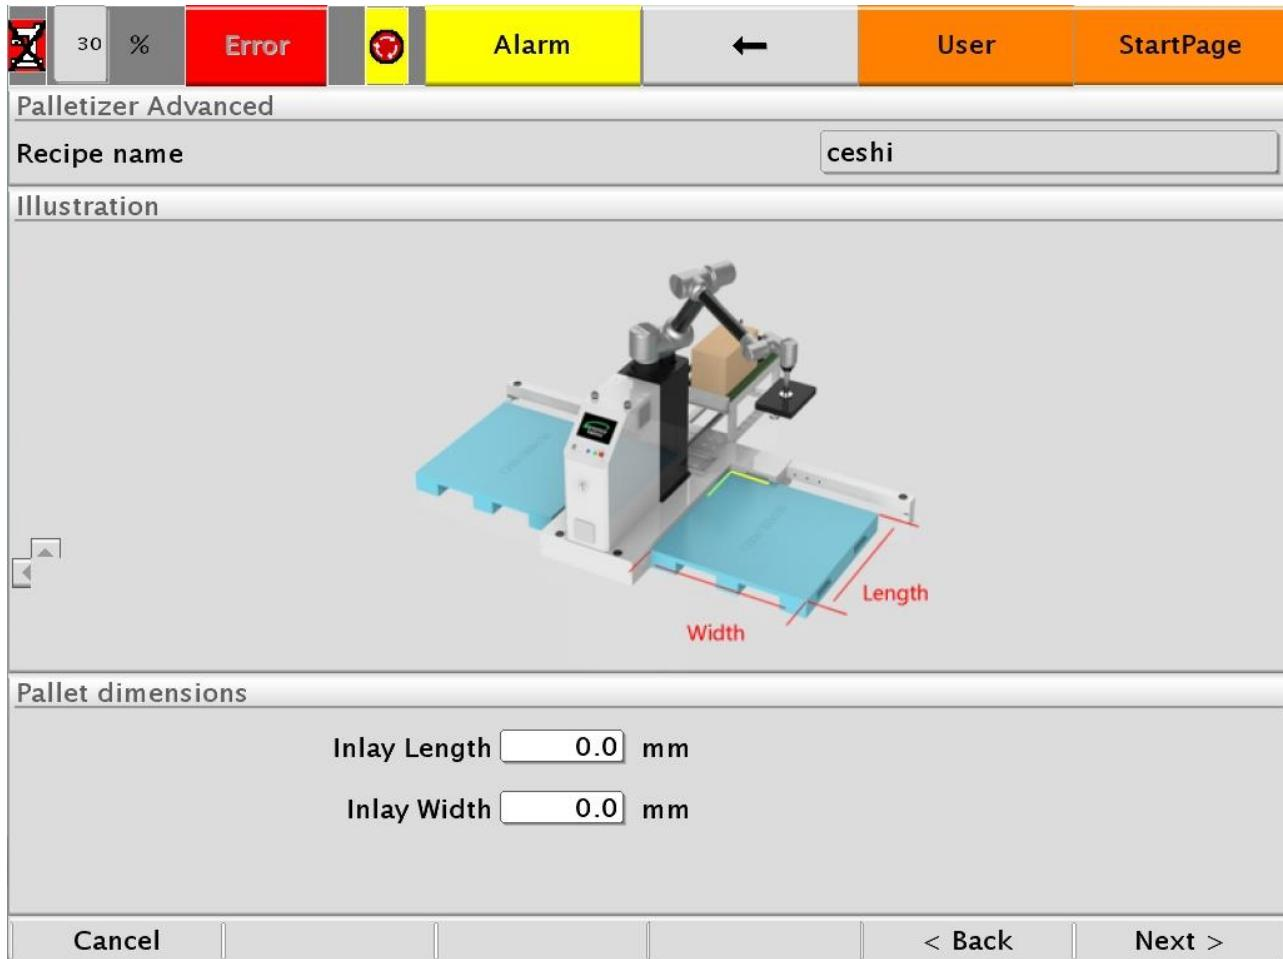

Figure 32
(3) Click "Edit" to bring up the pop-up shown in **Figure 32** below.